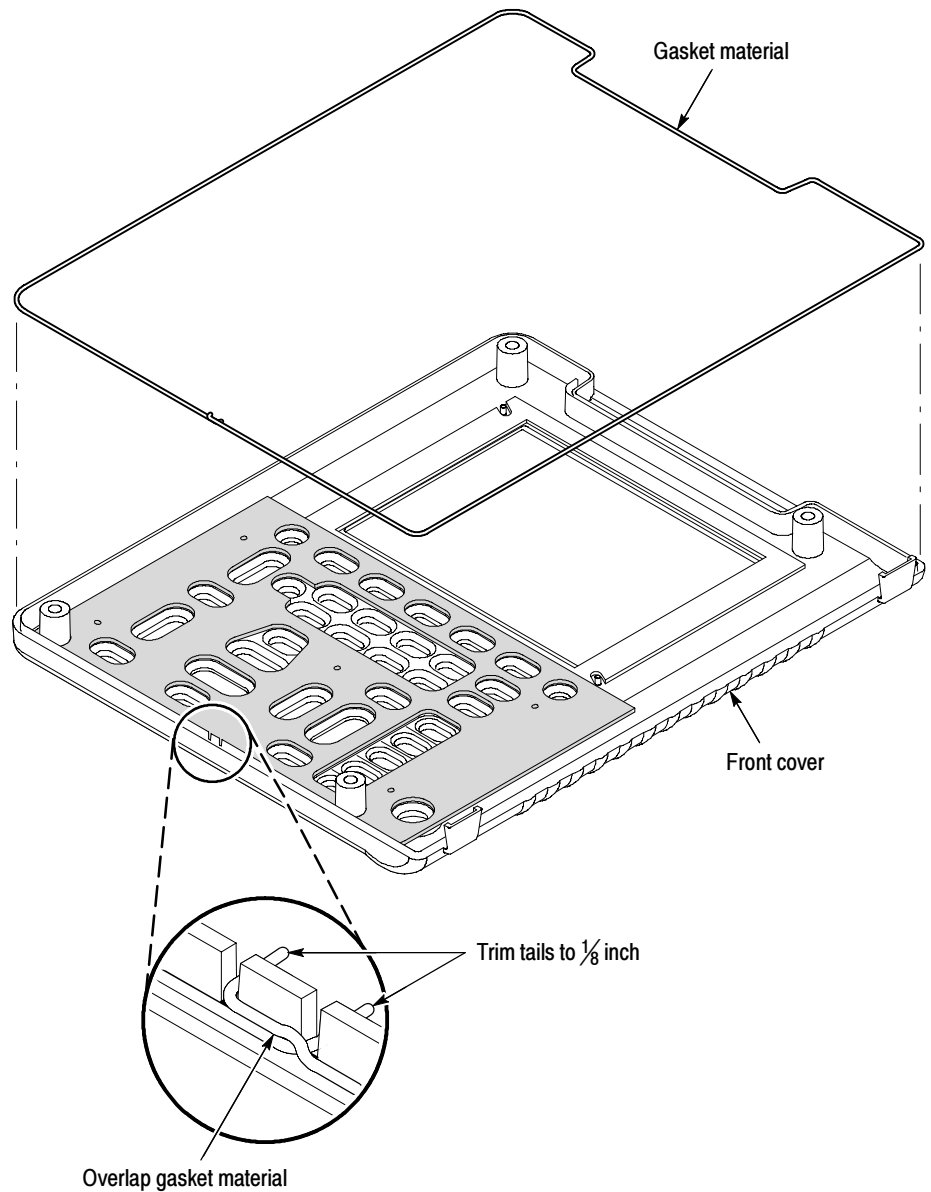

Figure 16: Installing the gasket
- d. Install a new gasket into the groove around the edge of the front cover. As shown in Figure 16, start the gasket at the bottom of the cover leaving a short ($\frac{1}{8}$ inch) tail through the slot. Carefully press the gasket into place around the rim with the $\frac{1}{8}$ inch flat-bladed screwdriver. To finish the installation, overlap the starting point and then pass the end of the gasket through the remaining slot. Trim the ending tail to $\frac{1}{8}$ inch length with the sharp knife.